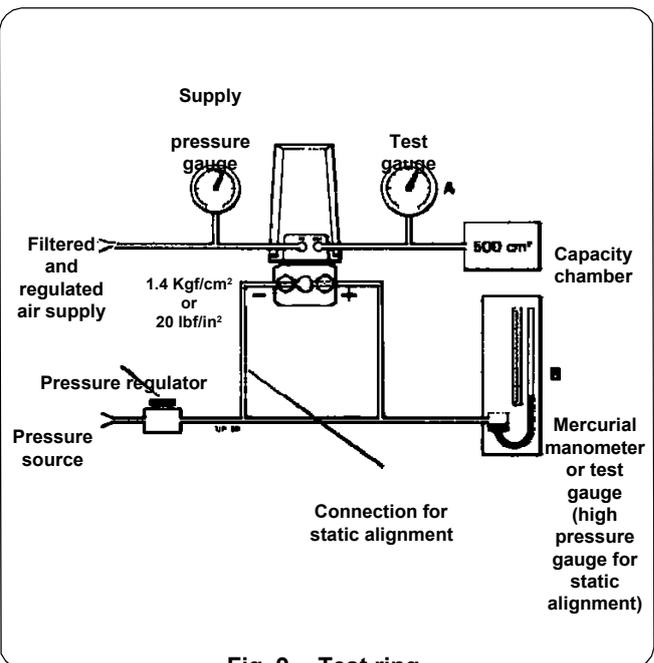

Fig. 9 - Test ring
# CALIBRATION AND ACCURATE SPAN SETTING (Fig. 9)
- Connect the above equipment and transmitter as shown in fig. 9.
- a) Set up the transmitter and connect to the test rig (fig. 9). Remove the suppression spring and bracket and check calibration in accordance with "calibration and accurate span setting" sub section.
- a) Set up the transmitter, connect to the test rig (fig. 9) and check calibration as described in "calibration and accurate span setting" section. For this check the elevation bracket and spring must be removed.
- a) Connect the transmitter to the test rig (fig. 9) and remove the elevation spring and bracket from the transmitter. Calibrate in accordance with "calibration and accurate span setting" sub-section to direct output valves.
- Set up the transmitter, connect to the testing (Fig. 9) in the previous sections and disconnect the capsule as described.